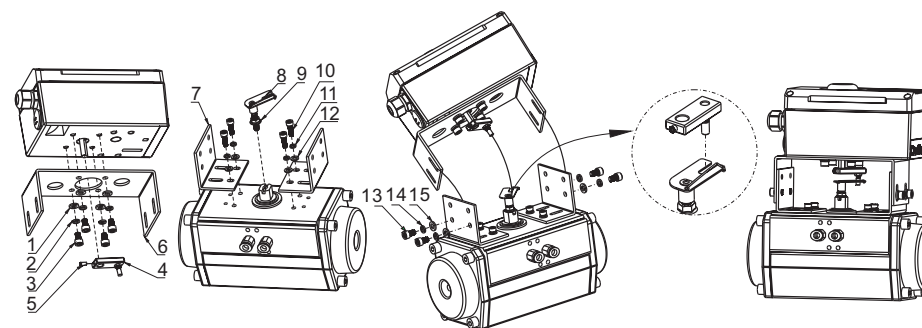

Fig 4-6 Installarion on a rotary actuator
The installation steps as followings ((Fig. 4-6):
Fix the positioner bracket (Fig. 4-6/⑥) to the positioner with hexagon head screw(Fig. 4-6/③), spring washers (Fig. 4-6/②) and washers (Fig. 4-6/①).
Fix the feedback lever (Fig. 4-6/④) to the shaft of actuator through hexagon head nut(Fig. 4-6/⑤).
Fix the actuator bracket (Fig.4-6/⑦) to the actuator with hexagon head screw (Fig.4-6/⑩), spring washers (Fig.4-6/⑪) and washers (Fig.4-6/⑫).
Screw inhexagon head nut(Fig.4-6/⑤) to feedback lever (Fig. 4-6/④),screw in the feedback lever to the actuator and fasten it with the hexagon head nut(Fig.4-6/⑤).
Put the positioner carefully on the actuator. The pin of the feedback lever (Fig. 4-6/④) should be in the slot of the feedback lever (Fig. 4-6/④). Adjust the height of the positioner, fasten the screw on the pin of the feedback lever (Fig. 4-6/④) and fix the positioner with hexagon head screw(Fig. 4-6/⑬), spring washers (Fig. 4-6/⑭) and washers (Fig. 4-6/⑮). Adjust the rotate angle of the feedback lever to comply to the requirements in §4.2.1.